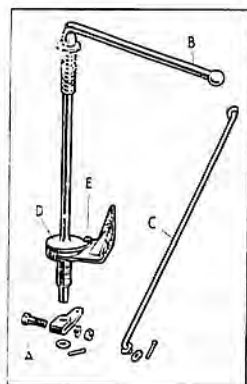

FIG. 114A. THROTTLE LINKAGE ADJUSTMENT.
First check that the throttle linkage stop beneath the instrument panel and that on the pump are effective at the same time, otherwise strain may be imparted to the linkage. Adjust by placing the throttle lever (B) in the fully closed position, loosen the clamp bolt (A)—refer to Fig. 114A at the base of the throttle shaft so that the hand lever assembly may be turned independently of the link rod (C) until the notch in the friction plate (D) comes into contact with the stop (E) in the bracket. Retighten clamp bolt.